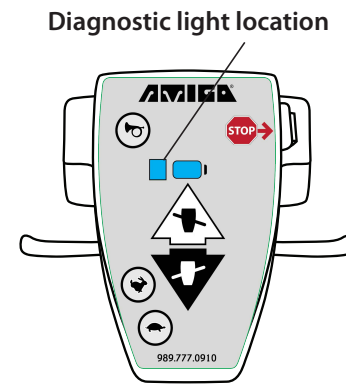

Figure 21
The Amigo controller has a built-in diagnostic feature that will cause the diagnostic LED lights (Figure 21) to flash a numeric code, indicating service issues to aid in diagnosis. When indicating a service problem, the diagnostic lights will flash, hesitate for a moment, and then flash again. Follow the code listings below to determine the problem. Solutions should be attempted in the order they are written. If the code indicates a service problem, contact your local service representative or call the Amigo service department at (800) 248-9131 or (989) 777-0910 for instructions to verify and correct the problem.